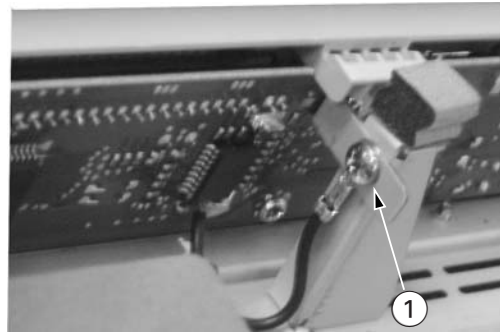
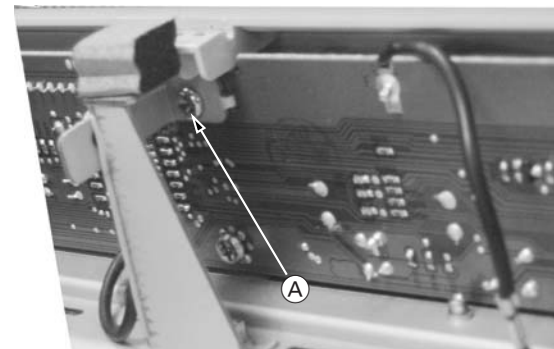

Figure 1
Figure 2
- 1 screw "A" on the inside as indicated in Figure 1 or Figure 2.